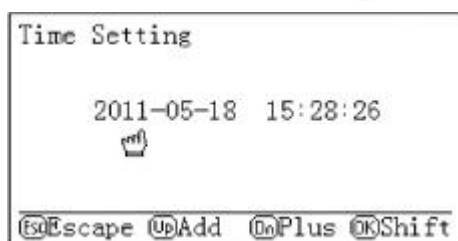

Figure 16
6. In FIG. 12 or 14 at the interface and press OK, if the printer is online at this time, the interface appears as shown in Figure 16 to start printing. If the printer is offline or not connected, the information appears as prompt interface 17, returned after three seconds. Only after the printer is connected and switched to an online state, before the printing operation.